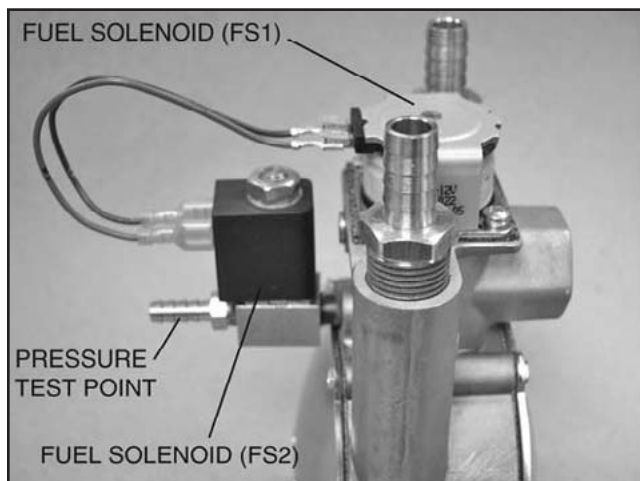

Figure 20. Fuel Solenoid and Pressure Test point on 9/10 kW Unit
1. Remove the hose from fuel solenoid (FS2) and install a manometer to the fitting. See Figure 20.